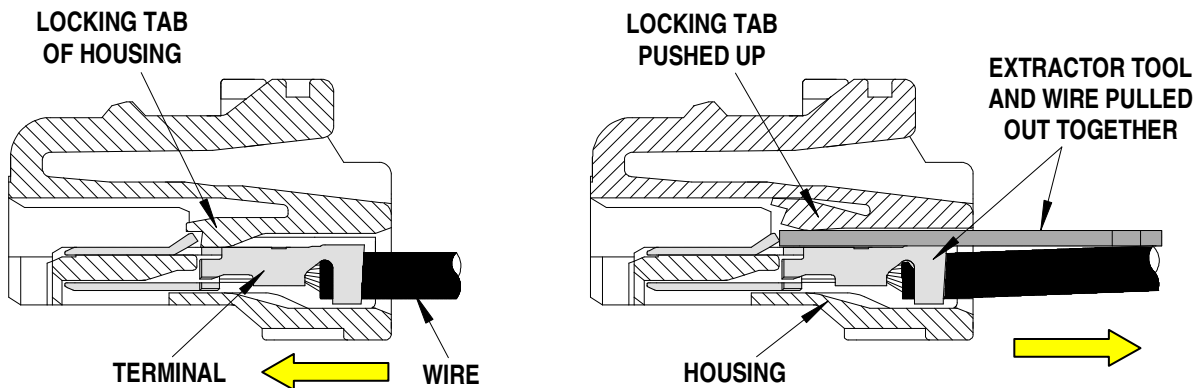

Figure 8
2. Insert the Extractor Tool into the slot above the terminal in the connector housing as shown in Figure 8.